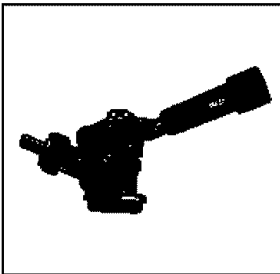

Fig. 9
16. Installation of the Keg Coupler: IMPORTANT NOTICE; Make sure the black pull handle of the keg coupler is in the "upward" (closed) position before installing on the beer keg. **See Fig. 9** Insert the keg coupler into the locking neck of the beer keg and apply a 1/4 turn clockwise to lock into position.
- Check that the keg coupler (handle) is in the up (off) position. See Fig. 9